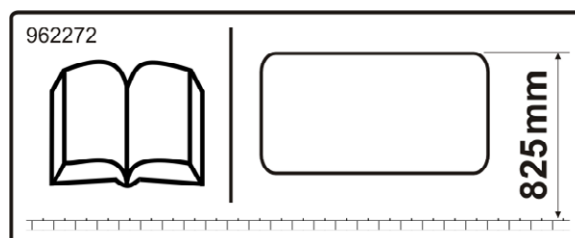
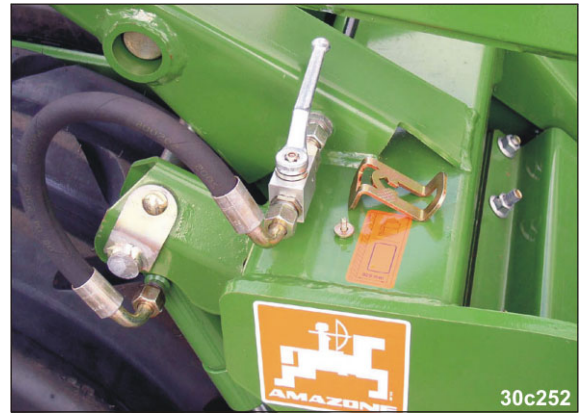

Fig. 252
Fig. 253
2. To set the correct frame height (see table Fig. 252) open and close the hydraulic stop-cocks (Fig. 253) on the right-hand and left-hand sides of the machine.